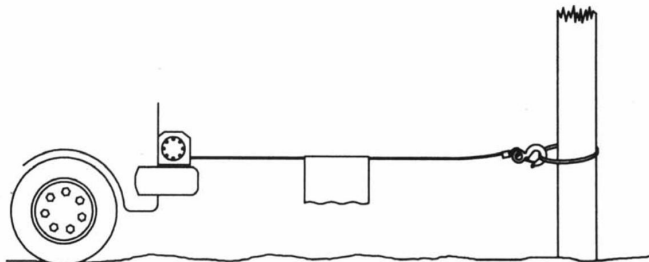

Figure 14
2. When pulling a load, place a blanket, jacket or tarpaulin over the wire rope near the hook end(see Fig 14). This will slow the snap back of a broken wire rope and help to prevent serious injury. Raise hood to protect windshield.